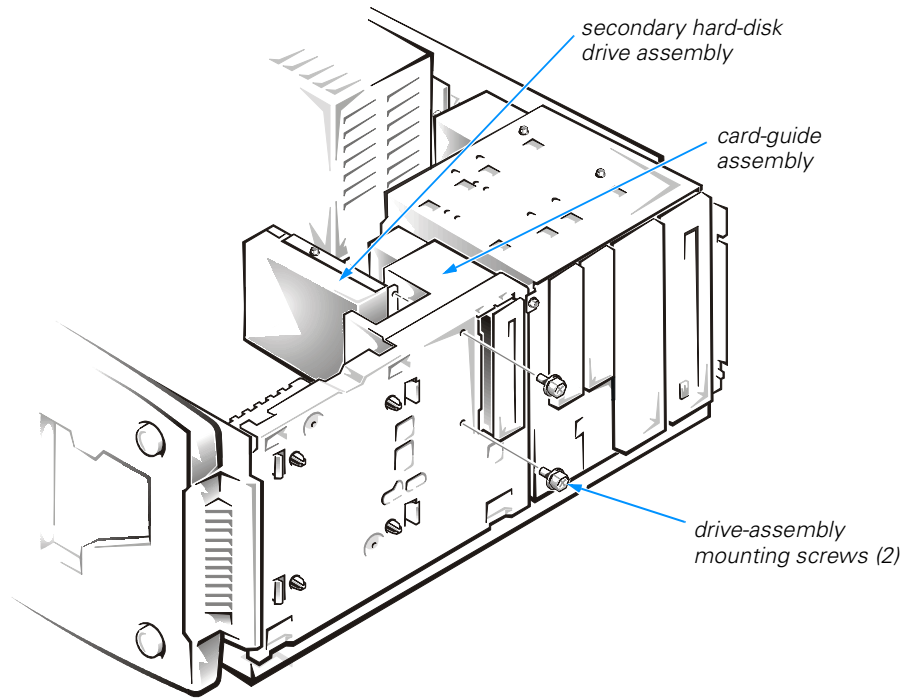

Figure 3-12. Secondary Hard-Disk Drive Assembly
4. Remove the two screws securing the secondary hard-disk drive bracket to the chassis (see Figure 3-12). Slide the bracket toward the back of the chassis and lift it out.